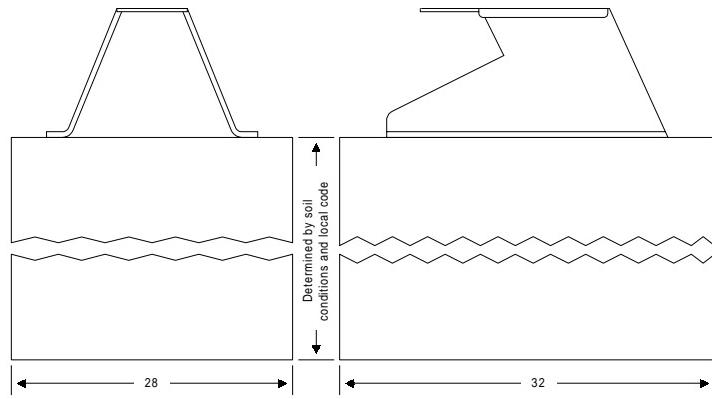

Figure 6
3. Once the location of the pad and base plate has been determined, construct a form for the concrete pad according to Figure 6. Note that the depth of the pad is determined by soil conditions and local building codes. The pad is sized so that there is four (4) inches of concrete around the mounting plate when it is installed on the pad.